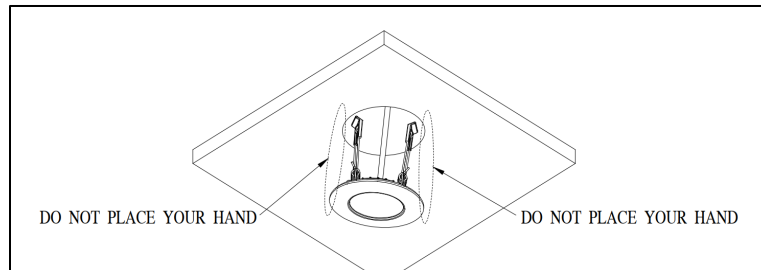

Figure 24
**AVERTISSEMENT : NE PLACEZ PAS VOTRE MAIN SOUS LE CLIP À RESSORT PENDANT LE PROCESSUS DE RETRAIT. LE CASSAGE DES CLIPS PEUT PROVOQUER DES BLESSURES À LA MAIN (Figure 24).**